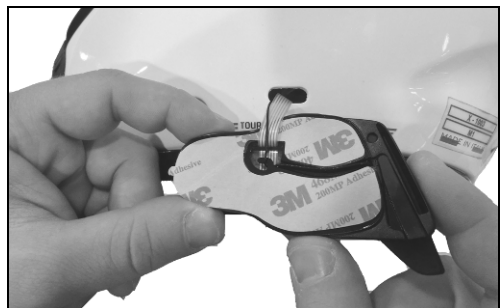

Fig. 31
- Push the antenna until you hear a click (Fig. 31).